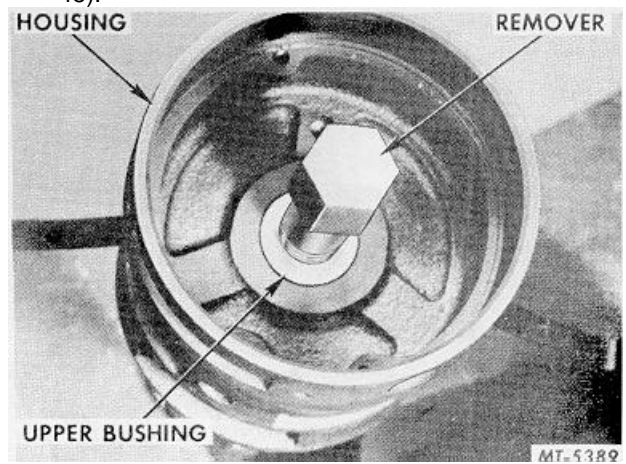

Fig. 45 Installing Remover SE-1955-5 In Upper Bushing
1. Install remover (SE-1955-5) in upper bushing (Fig. 45).